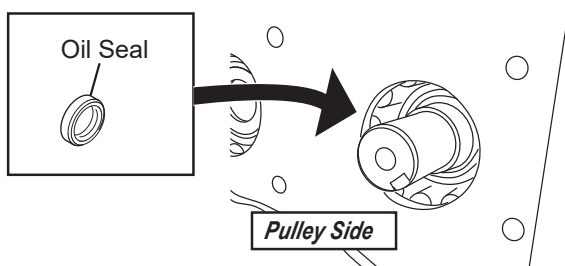

Fig.8-48
- l. Insert the oil seal (20) to the pulley side of vibrator case. (Fig.8-48)